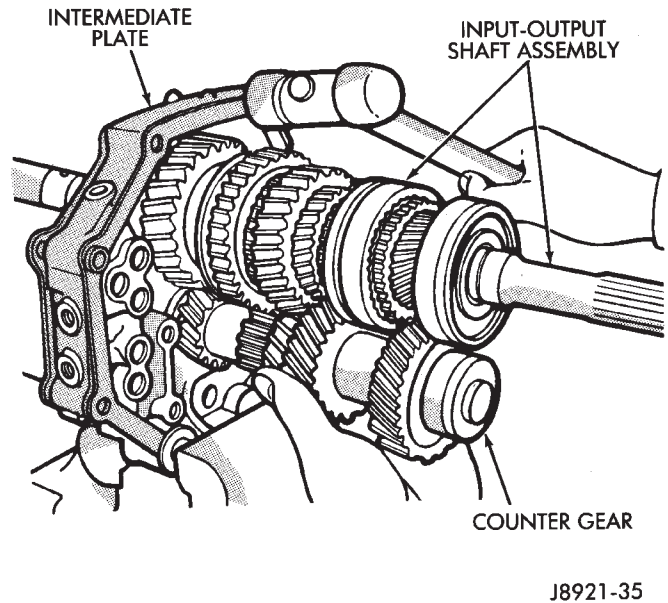

Fig. 35 Removing Counter Gear And Output Shaft
(9) Tap intermediate plate with plastic mallet and pull output shaft-counter gear assemblies out of plate (Fig. 35).